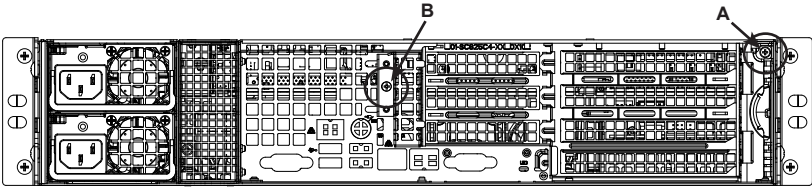

Figure 5-17. Removing the Retention Bracket (WIO Chassis Shown)
5. Remove the screw and the retention bracket securing the right side of the full height PCI slot covers (A) (see Figure 5-17). For UIO chassis (not shown), rotate the latch instead. Once the retention bracket or latch is loose, remove the chassis L-bracket access from the inside of the chassis, see Figure 5-17.
6. Remove the screw and the retention bracket securing the left side of the PCI slot low profile covers (B), see Figure 5-17 for WIO chassis. For UIO chassis (not shown), rotate the latch instead. Once the retention bracket or latch is loosened, remove the chassis L-bracket access from inside of the chassis, see Figure 5-18.